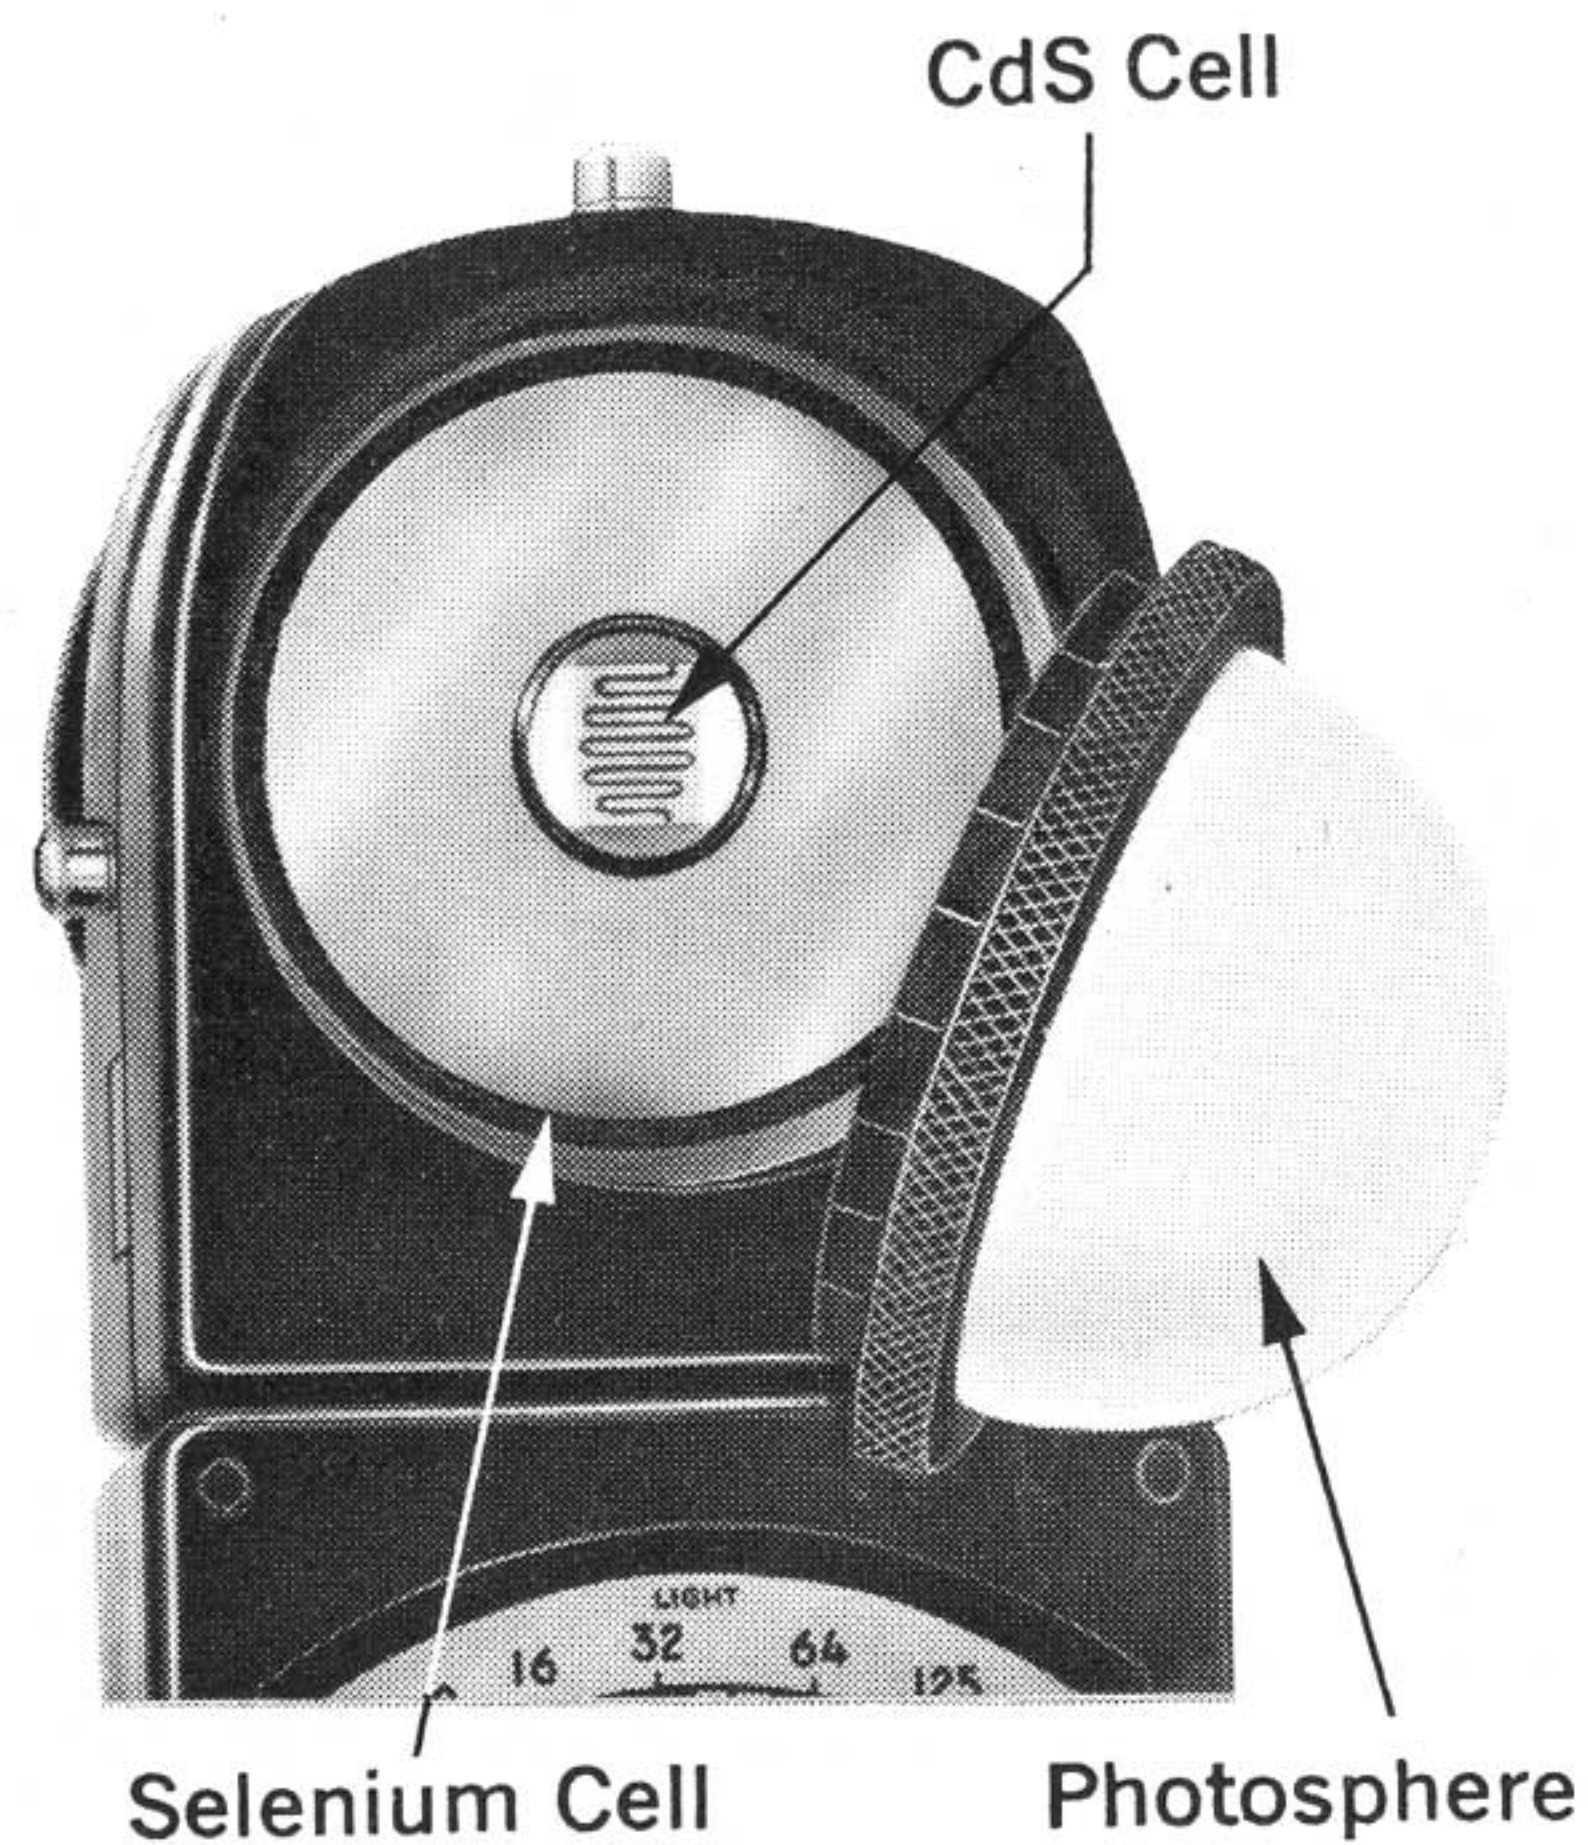

Figure 5
## **COMBI BOOSTER CIRCUIT: (Figure 5 — Page 17)**
When the level of light falls below the normal sensitivity (10 fc. or less) of the COMBI-500, a "boost" of 100 times sensitivity is obtained by switching to the CdS booster circuit. (Figure 5).
## **BATTERY TEST:** (Figure 5 — Page 17)
- 1) Push battery holder out (with large coin) of battery slot. (10, FIG. 5)